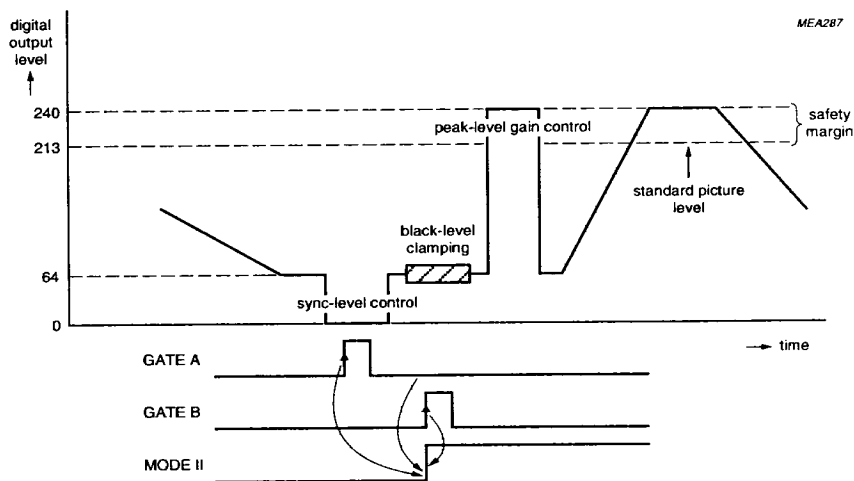

Fig.5 Control mode 2.
- Mode 2 can only be initialized with successive pulses on GATE A and GATE B (see Fig.5)